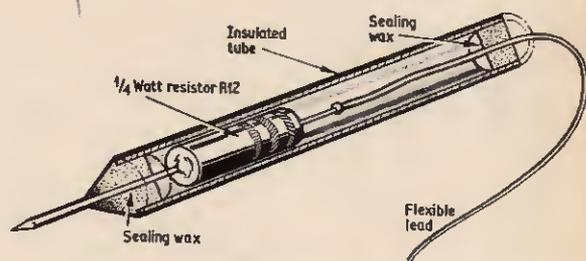

Fig. 6. Construction details of the voltage multiplier prod
- Material for prod (see Fig. 6)
A prod is readily made as in Fig. 6, using the body of an old ball point pen, or any suitable insulated tube. One wire end of the resistor R12 projects about  $\frac{1}{4}$ in and acts as the "probe". A thin flexible lead is soldered to the other resistor wire. The resistor is pushed in the tube, and sealing wax used to close the ends.
If a d.c. voltage test is required between two points both of which have r.f. or a.f. present, then a prod made as in Fig. 6 can be placed in each test lead. The total value is as for a single prod for the same range; for example, two 0.5 megohm prods are required for 0-10V.